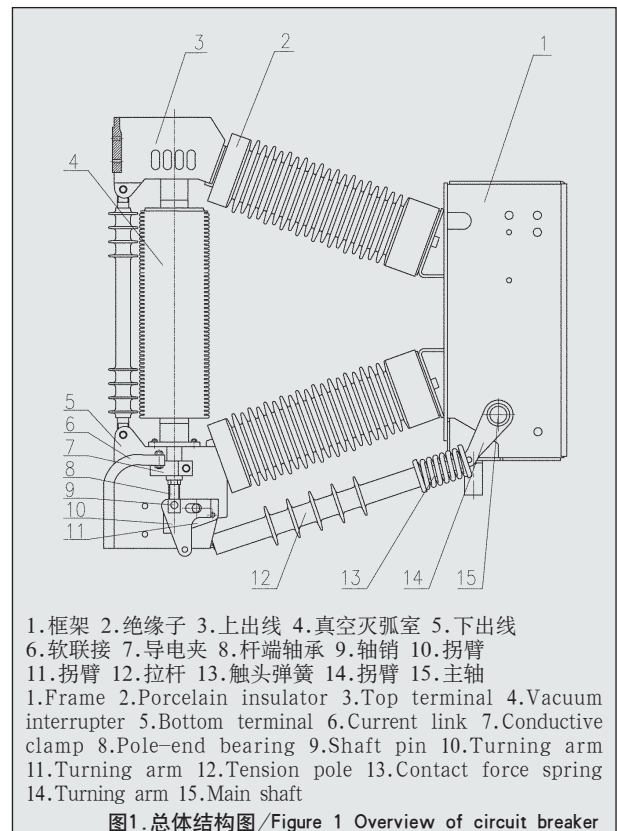

图1. 总体结构图 / Figure 1 Overview of circuit breaker
The circuit breaker (See Fig.1) mainly consists of vacuum interrupter (4), operating mechanism and supporter. Six sets of porcelain insulators (2) are fixed on mechanism box and three interrupters are fixed on insulators via